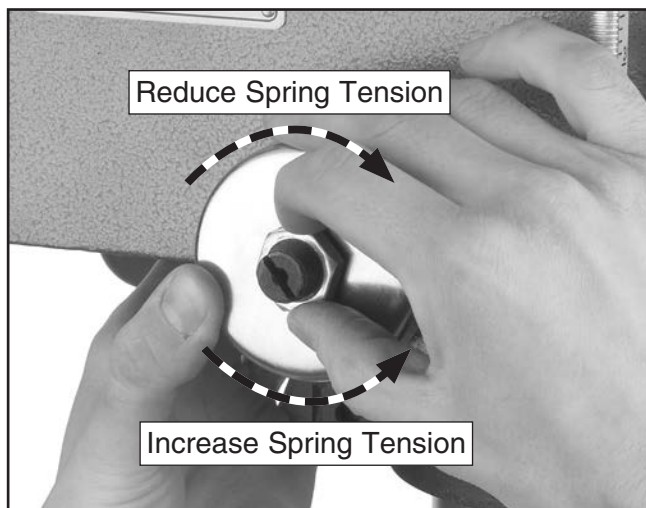

Figure 54. Loosening cover and jam nut to adjust return spring tension.
3. While holding the spring lock cover against the side of the headstock so the cover stays splined with the locking lug, as shown in **Figure 54**, loosen the jam nut and loosen the cover nut approximately $\frac{1}{4}$ " each.
6. Rotate the cover counterclockwise to increase spring tension, or let the cover slowly unwind in the clockwise direction to reduce spring tension (see **Figure 54**).